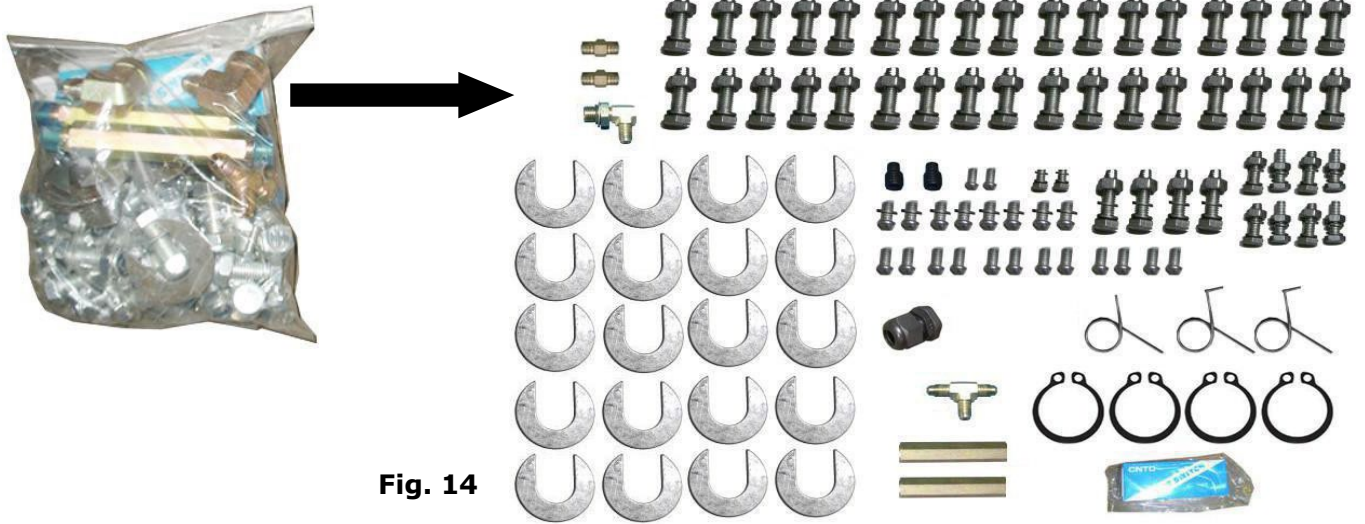

Fig. 14
6. Check the parts of the parts bag 1 according to parts bag list (See Fig. 14).